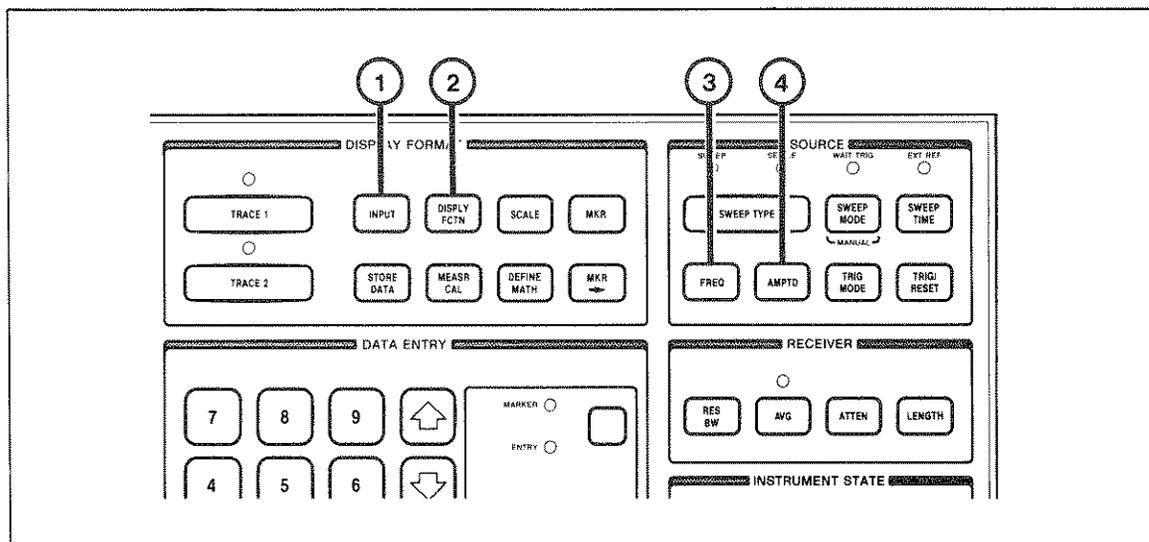

Figure 1•1 Setup Sequence
2. The recommended sequence for setting up a measurement is 1) **INPUT**, 2) **DISPLY FCTN**, 3) **FREQ**, 4) **AMPTD**. This sequence is a good, general start for setting up an instrument state and should be easy to remember. See the circled numbers in Figure 1•1.